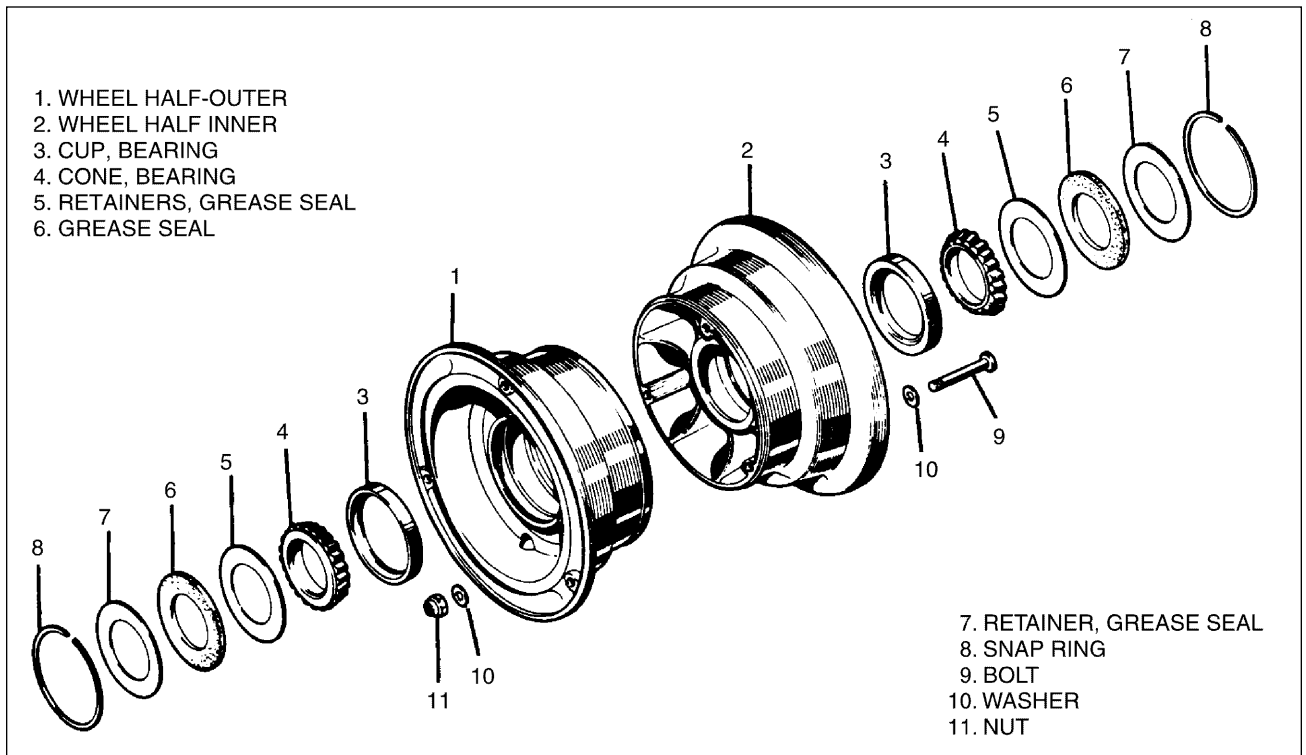

Figure 32-13. Nose Wheel Assembly (Typical)
(1) Inspection
(2) Removal and Disassembly (Refer to Figure 32-13.)
- (3) Assembly and Installation (Refer to Figure 32-13.)